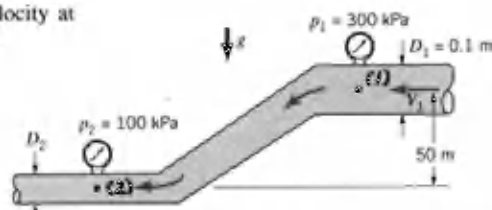

FIGURE P3.9R
3.9R (Bernoulli/continuity) Water flows steadily through the pipe shown in Fig. P3.9R such that the pressures at sections (1) and (2) are 300 kPa and 100 kPa, respectively. Determine the diameter of the pipe at section (2),  $D_2$ , if the velocity at section 1 is 20 m/s and viscous effects are negligible.